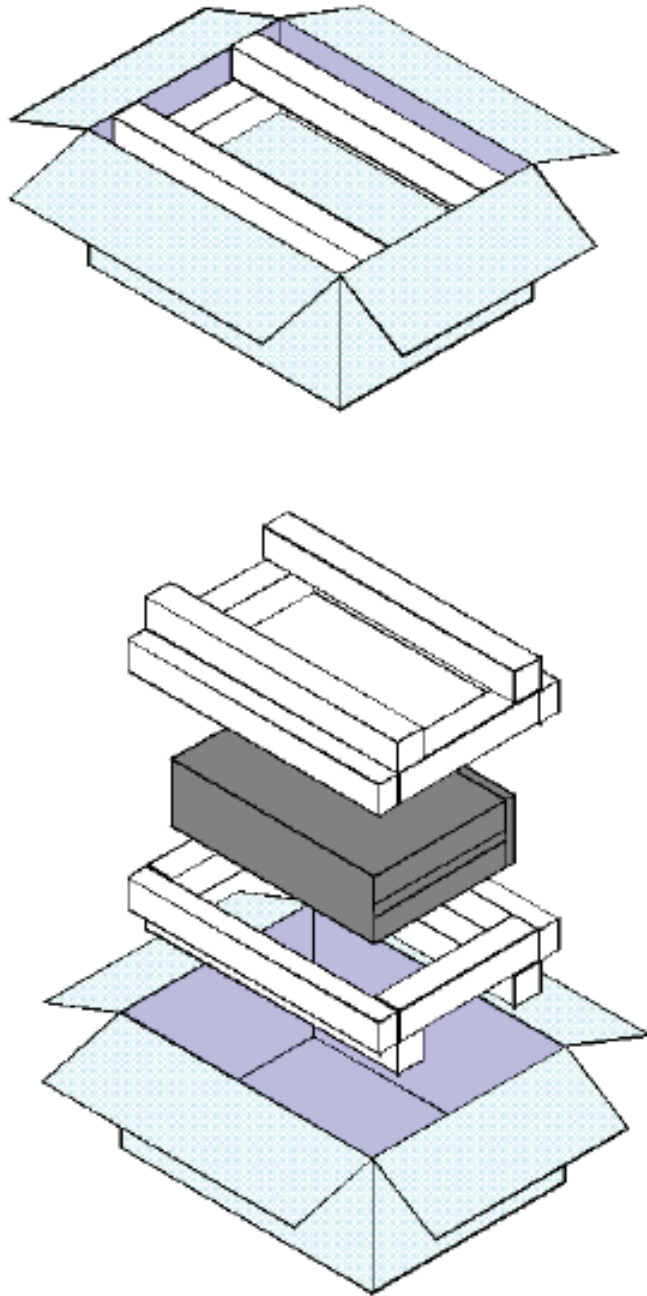

Figure 7-1. Packing the RUSKA 7250SYS
4. Insert one foam cradle from the original shipment onto the floor of the box. (The original foam cradles are of the same type of construction and are completely interchangeable.) If the foam cradles are not available, cover the bottom and sides with no less than 3 inches of N-95 foam strips. Arrange the strips in the configuration illustrated in Figure 7-1.